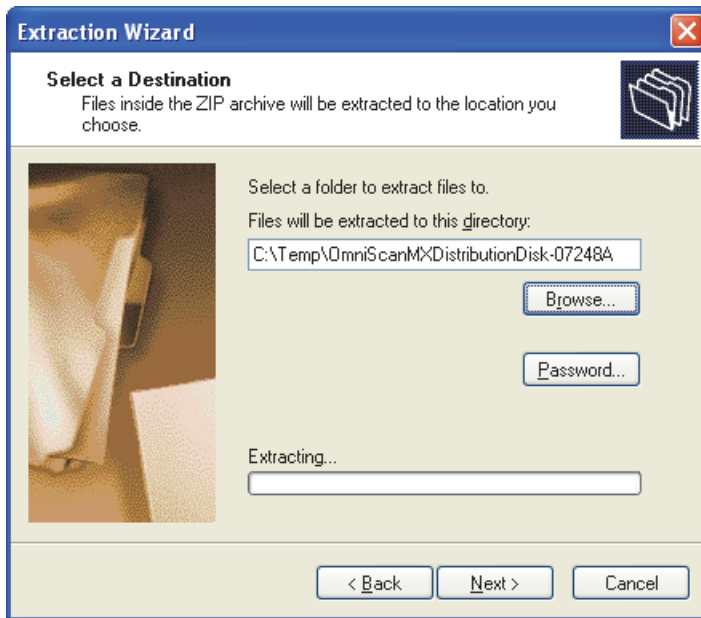

Figure 4-7 Select a Destination page of the Extraction Wizard
10. In the **Select a destination** page of the **Extraction Wizard** dialog box, click **Browse** (see Figure 4-7 on page 81).